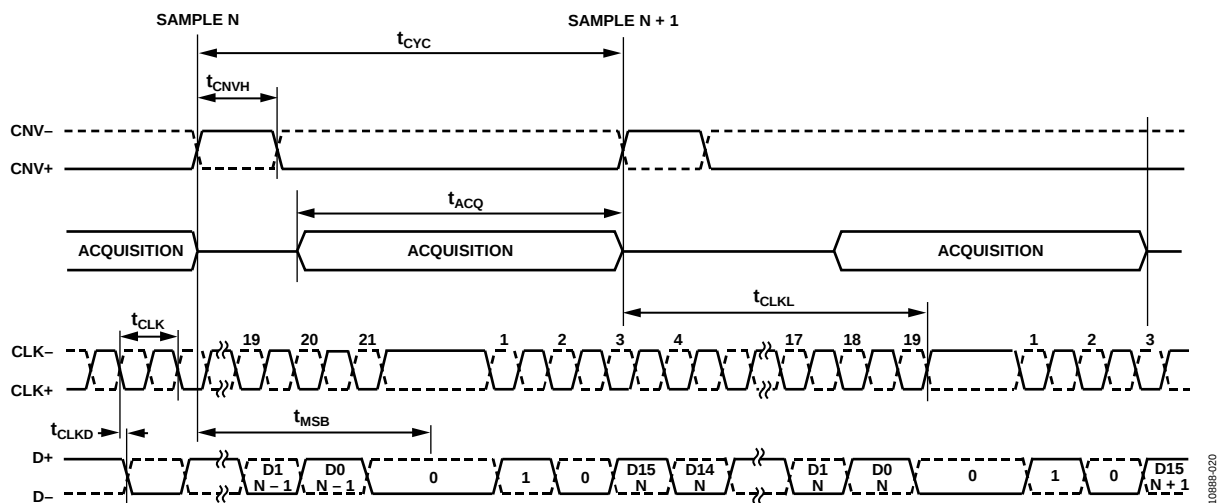

Figure 37. Self-Clocked Interface Mode with Extra Clock Pulse Timing Diagram
When the self-clocked interface mode is used, the AD7961 also allows the user to provide an extra (19th) clock pulse to see a guaranteed 0 state at the end of the frame, as shown in Figure 37. After t_{MSB} has elapsed, the first bit of the header sequence, 0, automatically appears on D $\pm$ and the remaining two bits of the header, 10, are then clocked out by the first two CLK $\pm$ falling edges at the beginning of the next sample. This header (010) is used to synchronize D $\pm$ of each conversion in the digital host because, in this mode, there is no clock output synchronous to the data (D $\pm$) to allow the digital host to acquire the data output.